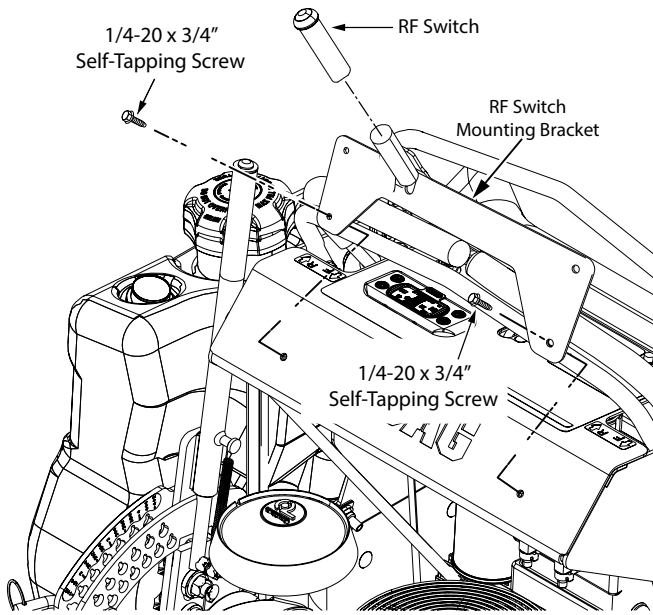

Figure 3-35. SVRII RF Switch Mounting Bracket Installation
1. Remove and retain the two (2) 5/16-18 x 1 1/4" bolts securing the cutting height bracket to the frame. See Figure 3-35.